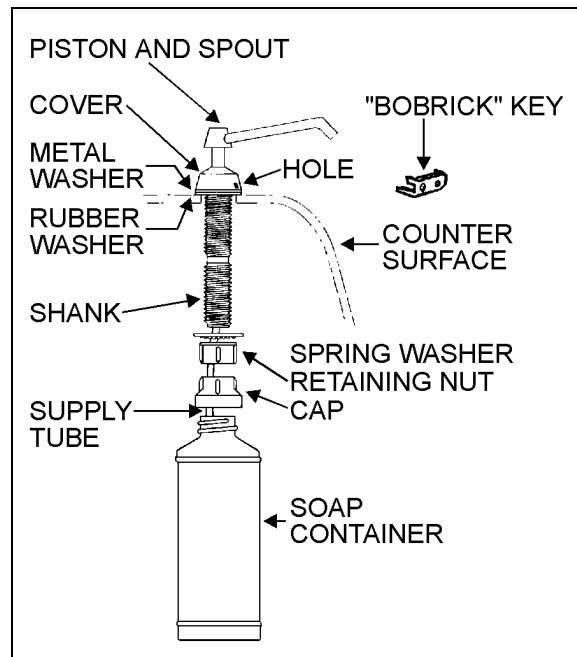

FIGURE 28: LIQUID SOAP DISPENSER 23039
2. Insert projection at end of "BOBRICK" key into rectangular hole in cover (Figure 28). Push straight in. While holding "BOBRICK" key in, turn cover counterclockwise about 1/8 turn.